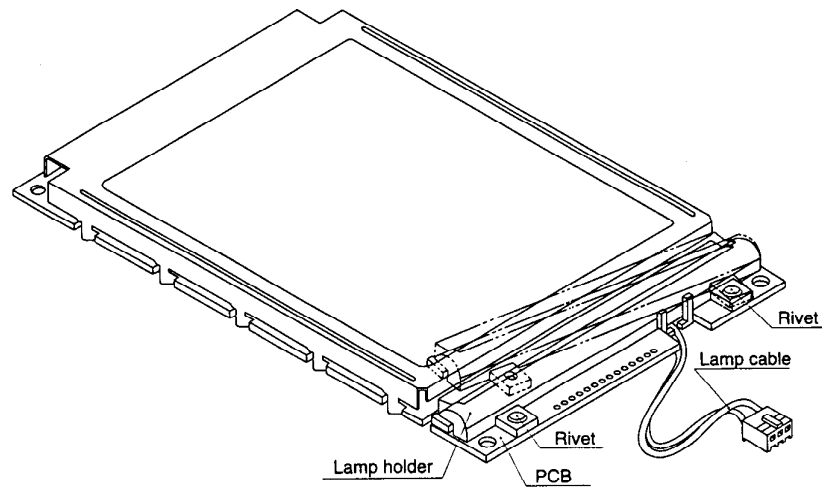

Figure 21
- (6) Loosen the cable of the replacement lamp so that it is easy to slip around the board. Because the cable is held tightly by the hook, pull it through the loop and loosen it.
- (7) Loop both wires around the board and through the notches so that the plug is under the board.
- (8) Doing one side at a time, align the clamps of the lamp holder with the notches on the light guide and snap on the lamp holder (Fig.21).